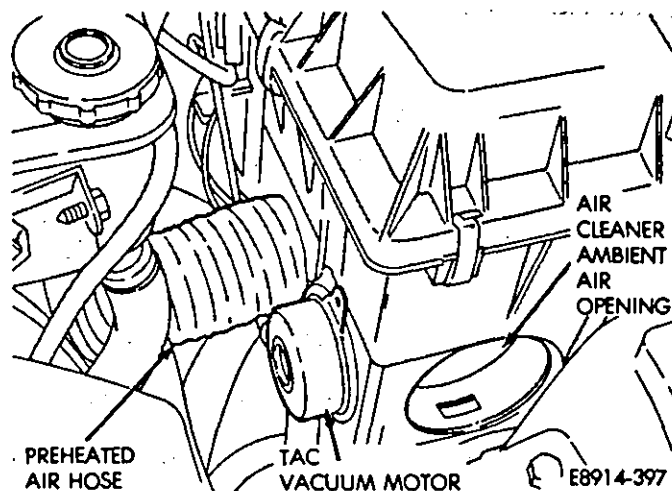

Fig. 25—Pre-heated Air Hose
(10) Inspect the pre-heated air hose connections at the air cleaner and heat stove on the manifold. Inspect the hose for rips or tears (Fig. 25).
(11) Inspect the air cleaner ambient air opening for blockage. Ensure that the TAC vacuum motor vacuum is connected to the motor (Fig. 25).